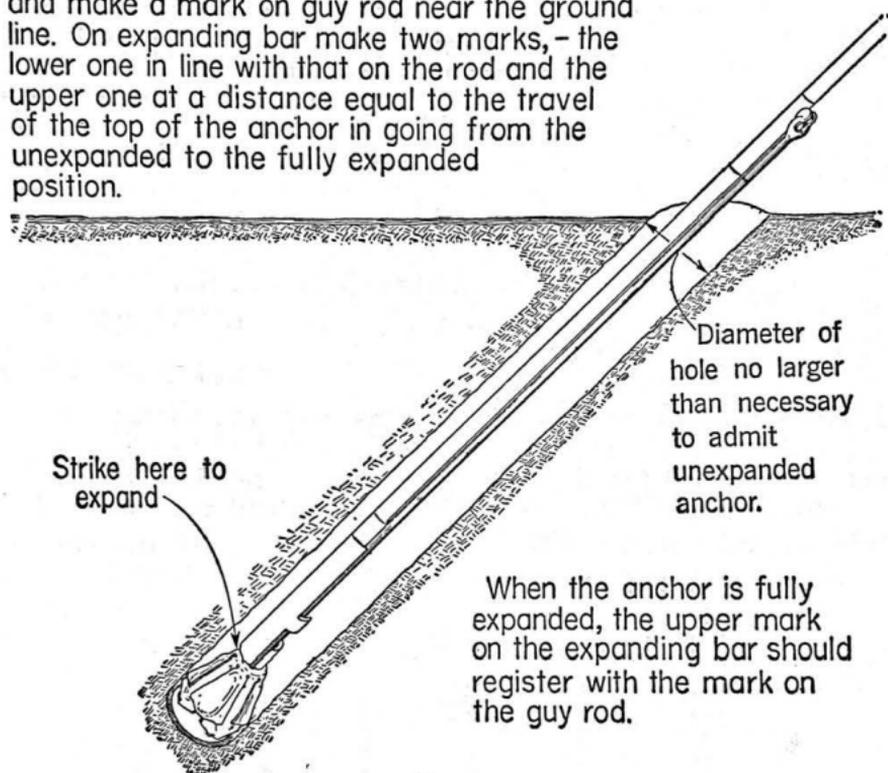

Fig. 4
(b) When soil conditions, location and type of digger permit, boring the hole at an angle so that the guy rod will be aligned with the guy as shown in Fig. 4.
- 4.05 Expand anchor with expanding bar as described in Fig. 4.